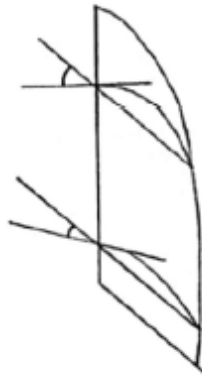
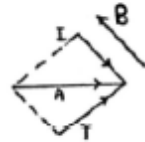

Fig 5
Fig 6
c) Sail Twist: The angle of attack of the sail is not constant through its height to the peak but widens slightly as the sail twists towards the peak, (fig 5). This is quite natural and advantageous to a limited degree as the angle of the apparent wind also widens slightly towards the mast head due to the slightly increased velocity of the true wind away from the frictional effects at water level, (fig 6). However, the effect of sail twist needs to be controlled, particularly in stronger winds, and one use of the kicking strap, in addition to controlling mast bend and sail depth, is to